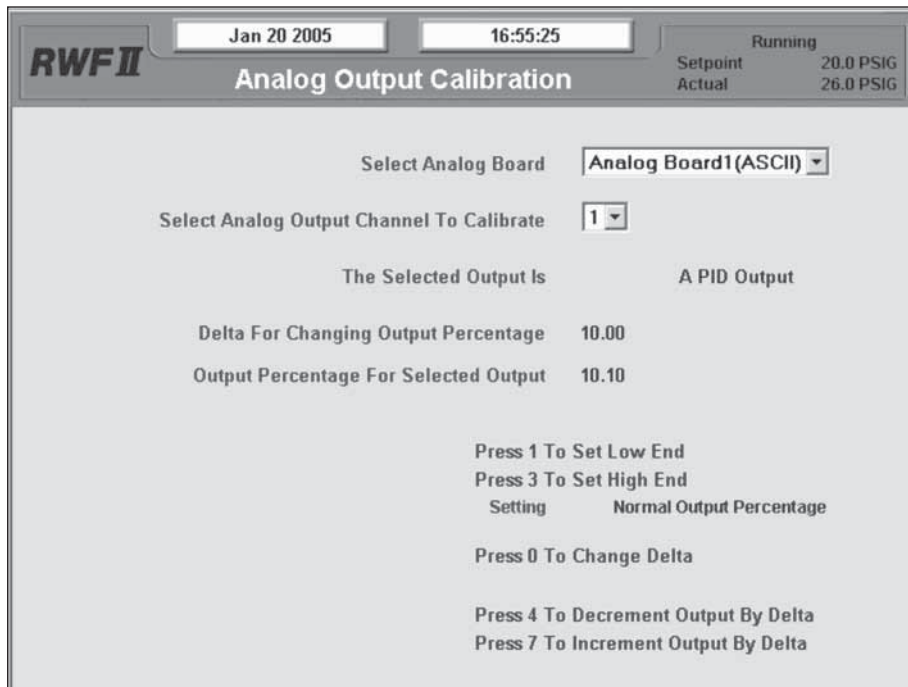

Figure 17
- Set operating session to session [2] and go to the screen shown in Figure 17 by pressing [Menu] > [Calibration] > [Analog Outputs] > [Output Calibration].